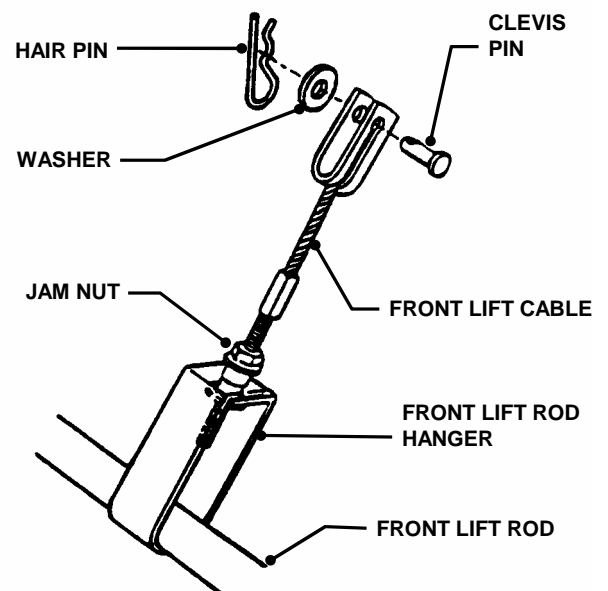

FIGURE 4.5
8. Remove hair pin and washer securing front lift cable to front lift arm. See Figure 4.5.
10. Loosen jam nut on front lift cable. See Figure 4.5.